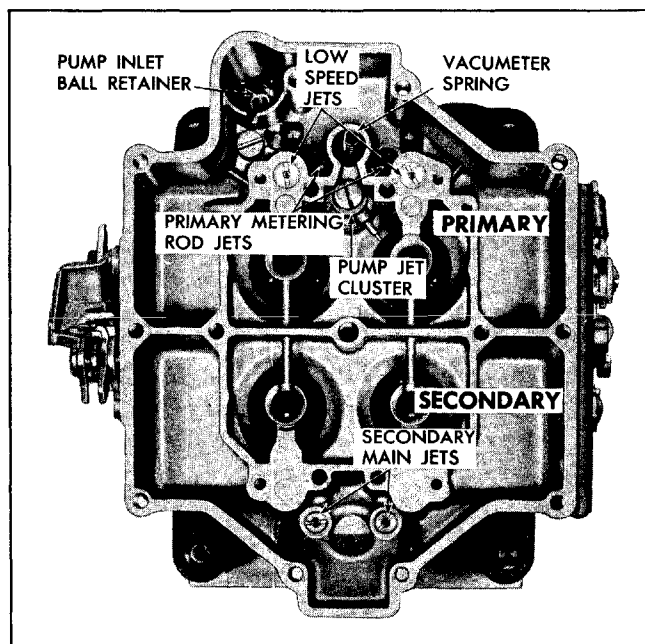

Fig. 6B-51 Carburetor Body—Top View
2. Remove vacuumer spring (Fig. 6B-51).